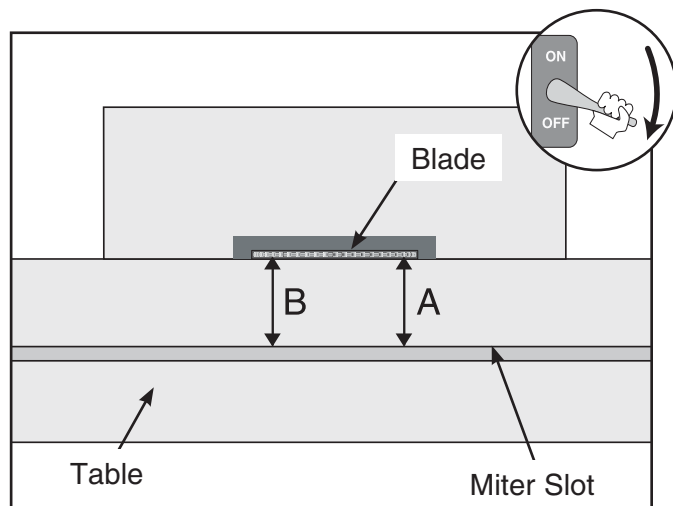

Figure 41. Measuring gap between the table and the blade.
4. Using an adjustable square or a dial indicator, measure the distance (A) between the miter slot and the front of the blade as shown in **Figure 41**.